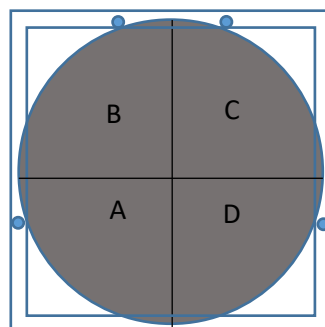

Figure 4 Dome quarters have a label: A B C D with A and D nearest to you.
- 1) Start with the four 1m metal parts for the main flat square. They are marked with red, green, blue and yellow dots on top to help identify where they fit. (see Figure 4 Dome quarters have a label: A B C D with A and D nearest to you.) Loosely fit a bracket on the inside of each corner.